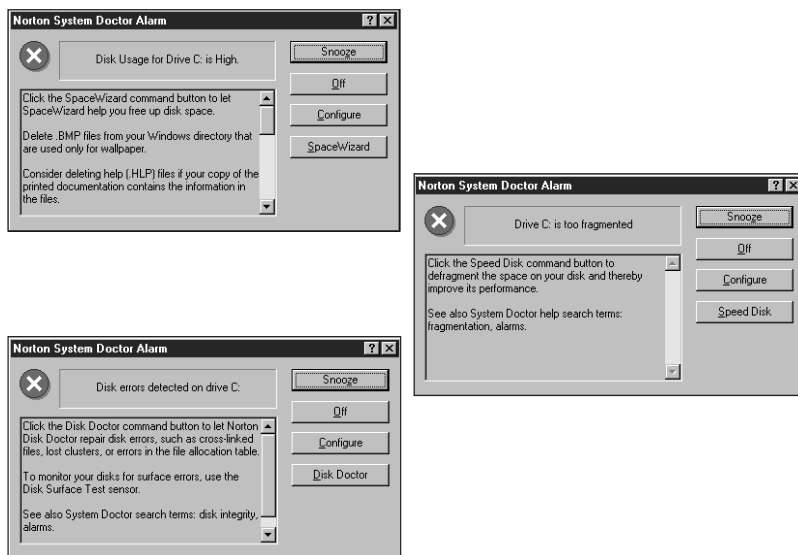

Figure 7-22 Examples of Norton System Doctor alarms
- **Norton System Doctor.** Norton System Doctor detects potential disk and system problems and scans for viruses. By default it runs in the background at all times and informs you when it encounters a problem. You determine when Norton System Doctor should react to certain problems and what it should do about them. You can configure it to check the integrity of your hard drive routinely and to open Norton Disk Doctor if it encounters a problem. Figure 7-22 shows some sample alarms produced by Norton System Doctor while running in the background.